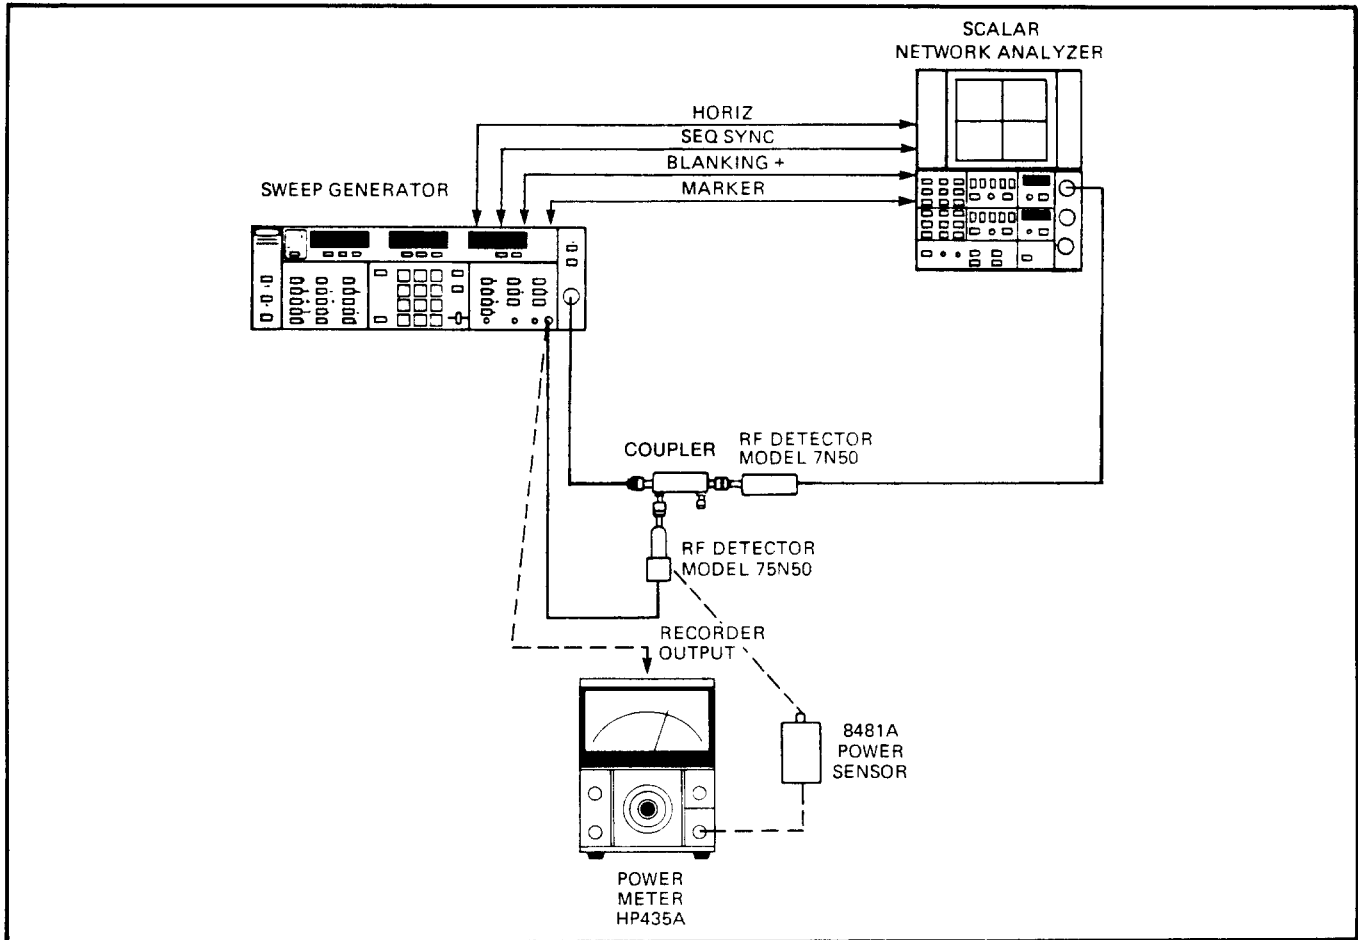

Figure 3-23. External Leveling Test Setup
connector and the LEVELING-DETECTOR or -POWER METER pushbutton. A test setup for external leveling is shown in Figure 3-23; the operational checkout procedure is given in Table 3-6.
1. Connect test equipment for detector leveling, as shown by the solid lines in Figure 3-23.
9. Disconnect RF detector from between the sweeper and the directional coupler; in its place, connect the power meter as shown by the dashed lines in Figure 3-23.